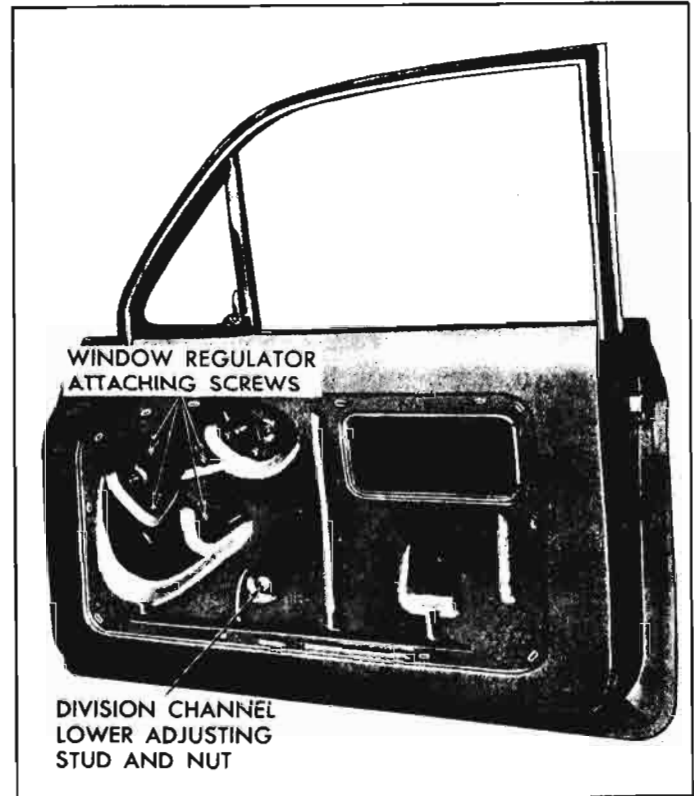

Fig. 10-53—Front Door Window Regulator and Lower Ventilator Attachment
2. Remove ventilator division channel lower adjusting stud and nut (fig. 10-53).
4. Remove window regulator attaching screws (fig. 10-53). Carefully work regulator assembly approximately one inch toward door hinge pillar or until regulator arm roller disengages from lower sash channel cam, then carefully work regulator assembly rearward and remove through access hole.